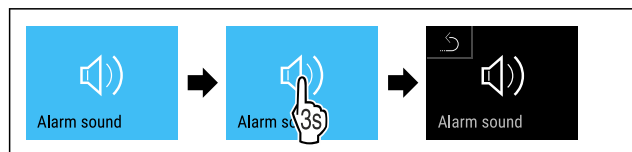

Fig. 111
- ▶ Complete steps (see Fig. 111) .